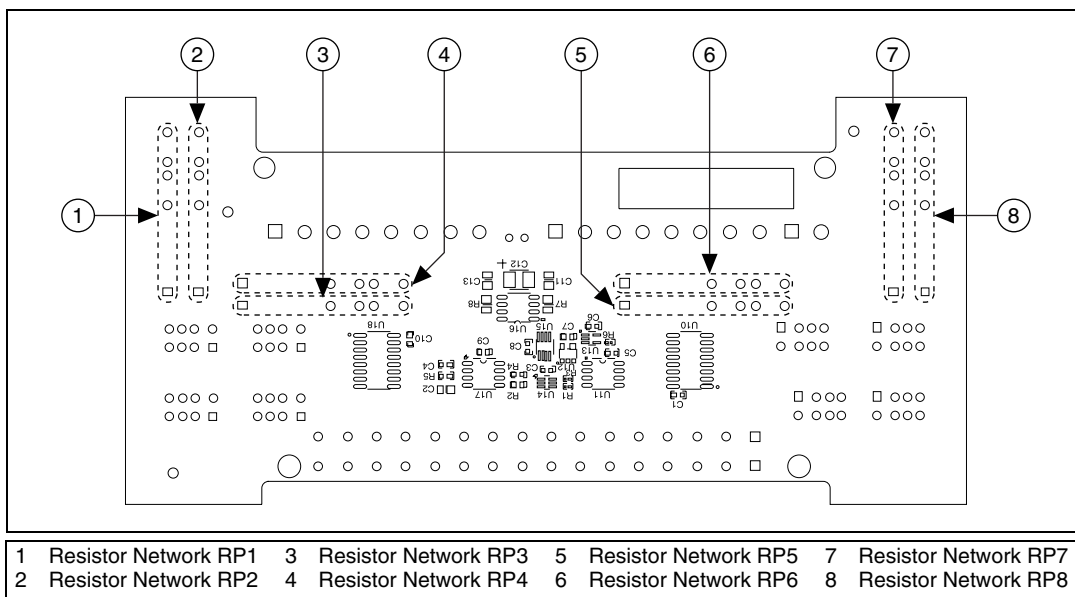

Figure 3. Resistor Network Locator Diagram
2. Measure the resistance of each of the eight resistor networks, shown in Figure 3, on the circuit board: